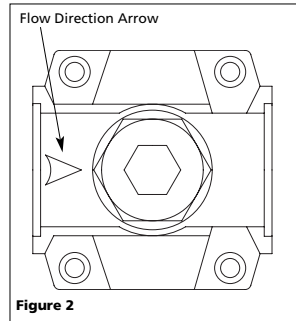

Figure 2
1. Locate the air flow direction arrow (See Figure 2, detail). This arrow shows the direction of the air flow, i.e., it points to the outlet.
5. Verify the arrow points to the outlet. (See Figure 2.)
5. Verifique que la flecha apunte hacia la salida (Vea Fig. 2).